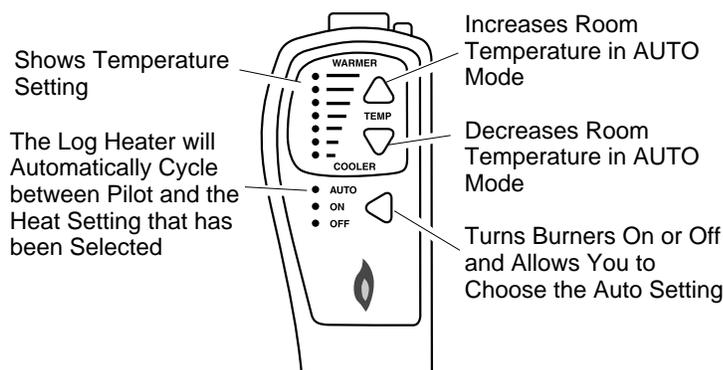

Figure 27 - Thermostat Hand-Held Remote Control Unit Selections (GHRCTA Series Only)
- 2b. Press the AUTO/ON/OFF button on the hand-held remote control (see Figure 27). The lights to the left of the button will show AUTO, ON, or OFF.